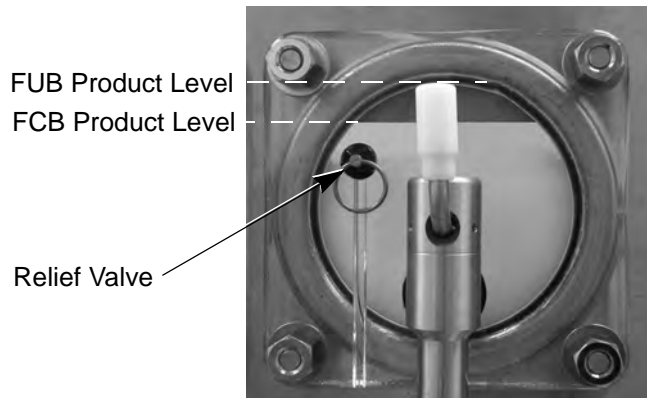

Figure 6
2.	Fill the barrel by opening up the barrel faceplate relief valve for the barrel (See Figure 6). Fill the barrel to the level shown in Figure 6 (approx. half way between the relief valve and the top of the barrel, depending on the product type) for 100-110% overrun.